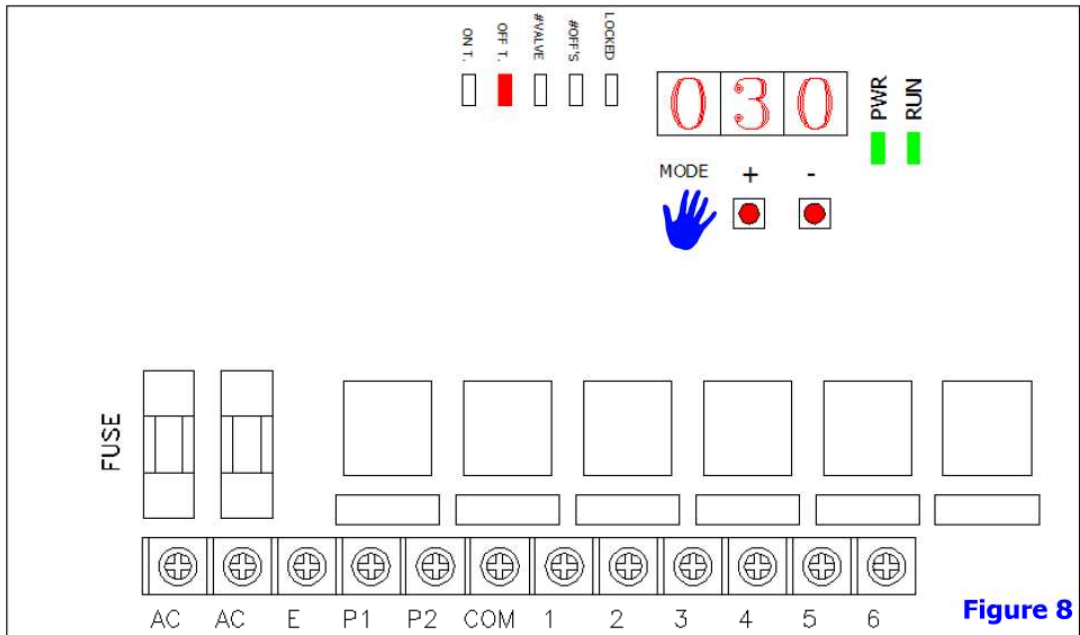
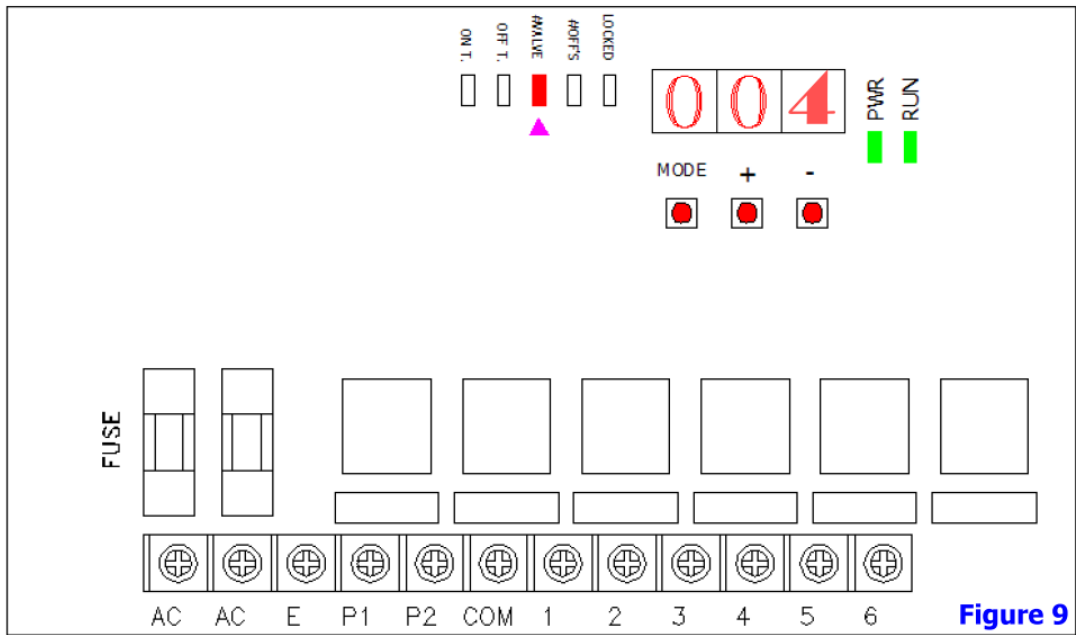

Figure 8
Figure 9
- Press MODE (figure 8) . The "#VALVE" will flash up that represents it is in the valve quantities setting mode (pink triangle) (figure 9).